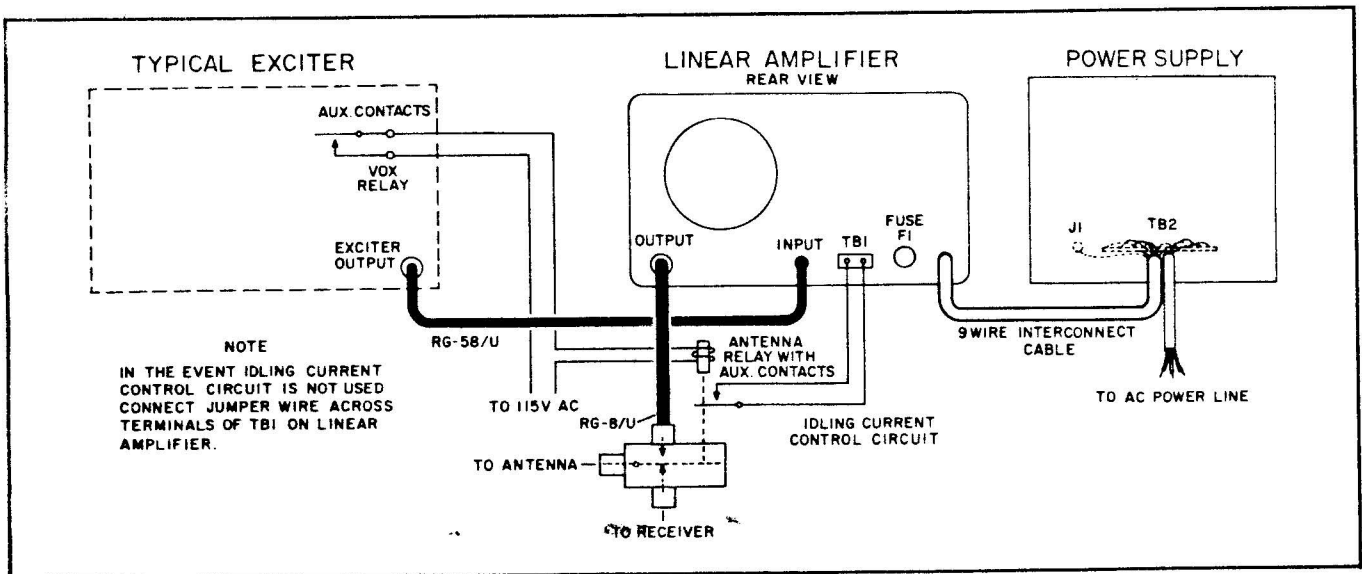

Figure 3. Suggested System Cabling Diagram, Linear Amplifier, Exciter, and Power Supply.
a. RF Input. The input connection for the RF driving signal is located at the rear of the cabinet. A chassis-mounted, female, phono-type connector is provided for the input connection. The mating connector is supplied with the equipment and is used by connecting to a short length of RG-58/U coaxial cable terminated in a connector mating with the exciter output connector. Refer to figure 3 for location of the RF input connector and cabling diagram.
b. RF Output. The output connection for the RF output signal is located at the rear of the cabinet. The output connector is a chassis mounted, UHF Type coaxial connector (SO-239) and mates with a UHF Type coaxial connector (PL-259). The power output developed requires the use of RG-8/U coaxial antenna feed line. The linear amplifier performs best when the load impedance is as near to 50 ohms as is practical. A load impedance of 50 ohms reduces VSWR (voltage standing wave ratio) on the transmission line. Refer to figure 3 for location of the output connector and interconnecting data.
A high-grade, coaxial-type antenna changeover relay is recommended for use in the installation of the linear amplifier. When selecting the antenna changeover relay, a relay with auxiliary contacts should be used if the idling current control provision is to be utilized. The antenna relay is normally operated by contacts of the VOX (voice operated) relay in the exciter unit. Figure 3 illustrates a typical interconnection of the antenna relay and the wiring to auxiliary contacts to provide idling current control.
The type 3-400Z tube, a zero-bias triode with operating voltages up to 3,000 volts DC, does not require the application of bias voltage, either for normal operation or in the standby condition. However, in the standby condition with no driving signal applied, the presence of plate voltage and the heated filament permits an idling current to flow through the tube. The amount of idling current flowing in the standby condition is controlled by the resistance of the ground-return circuit of the filament. Therefore, the amount of idling bias can be reduced by insertion of a resistance in the ground-return circuit during standby. The resistance, which is inserted during standby, must be removed during the transmit condition. The two-connector terminal board (TB1) at the rear of the cabinet serves this purpose, see figure 3. The two leads terminated at TB1 provide a low resistance path and effectively remove the resistor from the circuit when auxiliary contacts of the antenna relay close in the transmit condition or when a permanent jumper is placed across the two terminals. Idling current during standby, when the two terminals are jumpered together, is approximately 120 milliamperes compared with 40 milliamperes when the jumper is removed.
If the idling current control circuit is not used, a jumper must be installed permanently across the two terminals. If the user elects to utilize the idling current control circuit, connection to the auxiliary contacts of an antenna changeover relay and the terminal strip should be made as shown in figure 3. The two leads must be connected to the auxiliary relay contacts in such a manner that when the antenna changeover relay is de-energized (standby condition), contacts are open, placing the resistor in the ground return circuit; when the antenna changeover relay is energized (transmit condition), contacts close to short the resistor out.